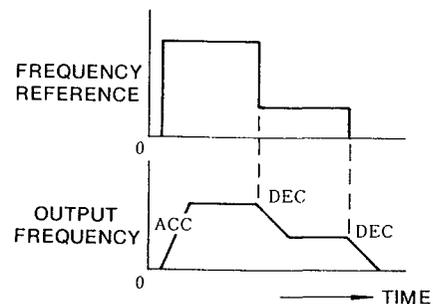

Figure 4. Accel/Decel Time Setting
- (4) Acceleration and deceleration circuit: Acceleration and deceleration times can be independently set by the acceleration (ACC) and deceleration (DEC) time setting potentiometers. (See Figure 4)
- (5) Stall prevention circuit: